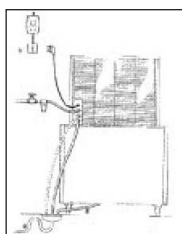

Fig 18.
10) Connect the 3/4" Feeding pipe (supplied) to the machine and to the cold drinking water supply line. It is advisable to install a shut-off valve (not supplied) to the water feed pipe. If the feed water contains impurities, the installation of a filter system is recommended. If the water is particularly hard, i.e. rich in minerals and their derivatives, the application of a suitable water filter is recommended, preventing any scale deposits blocking the water circuit of the machine (Fig.18).
11) Fit the flexible drain pipes to the icemaker and the storage bin ensuring there is adequate fall on the pipes to avoid the drain water backing up. For a perfect water outlet from the machine a minimum incline of 3% of the pipes is advisable. Check also that the pipes are not throttled or siphoned. It is advisable that the pipes discharge in an open vented drain (Fig.18).